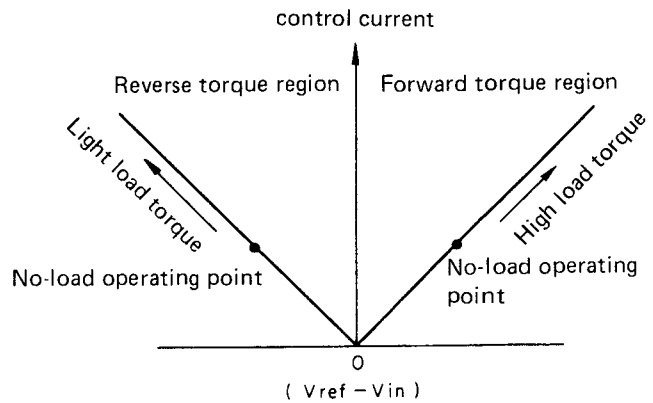

Fig. 4-11 Input/output characteristics
1. The signal at the 6 pin (control input) is compared with the signal at the 5 pin (reference voltage) and the difference in voltage is used to generate current in the motor winding. The input/output characteristics are shown in Fig. 4-11.